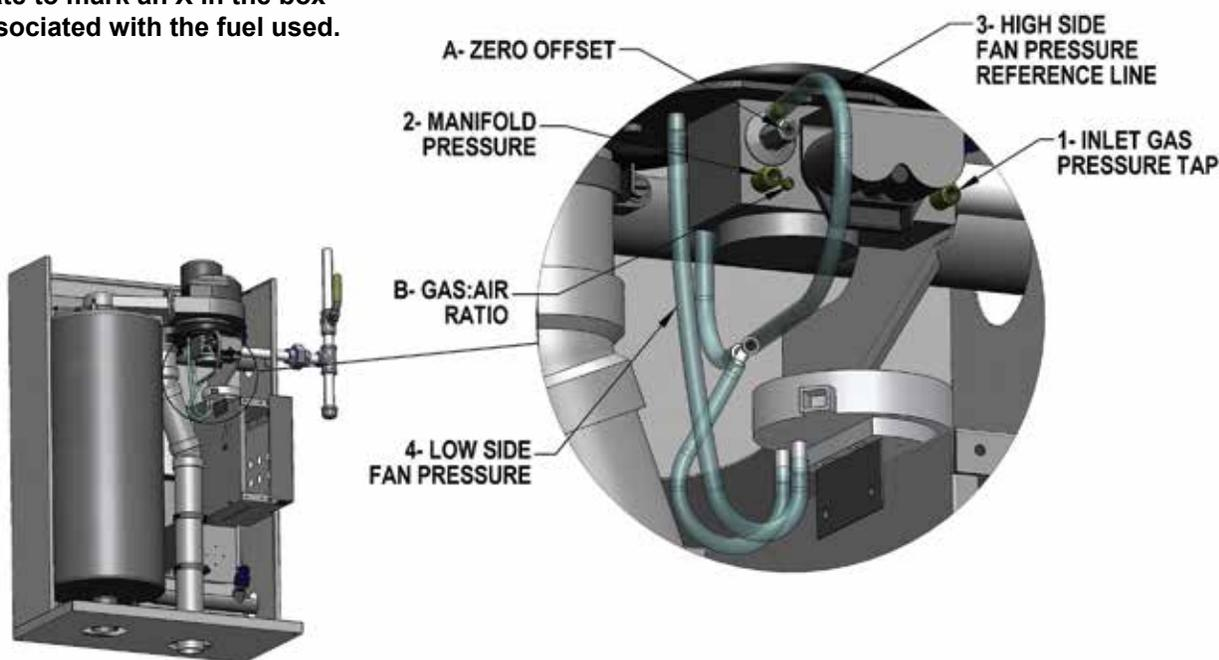

Figure 31: Gas Valve and Pressure Reference System
To verify the proper operation of the gas valve in the field, the following procedure can be carried out by a qualified technician (see *Figure 31*).
3. With the boiler at maximum output, use a 2 mm hex key to adjust the zero-offset (see *Figure 31, "A"*) as required to achieve 0" wc. This adjustment is only necessary if this screw has been tampered with.
4. With a combustion analyzer probe in the flue gas test port, turn the Gas:Air Ratio Adjustment screw (see Figure 31, "B") to achieve 28% excess air (corresponding CO₂ values are 9.2% for natural gas and 10.4% for propane). This screw offers very fine adjustment, and may require several turns. **NOTE:** This screw has significant backlash. When changing direction of turn, it may take up to a full turn before any change is indicated on the analyzer reading. Clock the gas meter to confirm full maximum rating plate input.
6. At the minimum firing rate, adjust the zero-offset screw (see Figure 31, "A") to obtain 28% excess air. It may be necessary to reduce the output in stages if this adjustment has been tampered with.